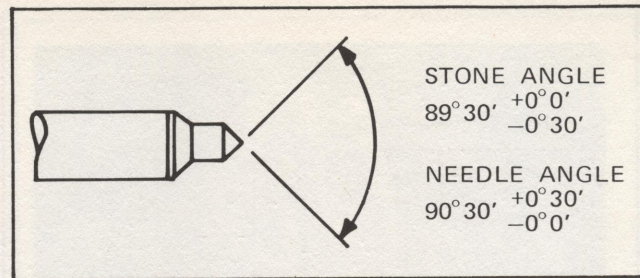

FIG. 8. HONING STONE AND NEEDLE ANGLES.
2. Check angle of honing stones, using Nozzle Viewer, Part 147X1390-1 or 147X1451-1. Maintain the correct stone angle, redressing the stones as required. Refer to Fig. 8.
If necessary, grind the flat end of the needle to eliminate scratches or signs of uneven wear. This surface must be square with the axis of the needle. It will be necessary to grind the needle seat if the nozzle-body valve seat has been honed. Grind the needle seat to the angle shown in Fig. 8. Do not grind more than is necessary to refinish the seating surface. Check the needle angle with the Nozzle Viewer.